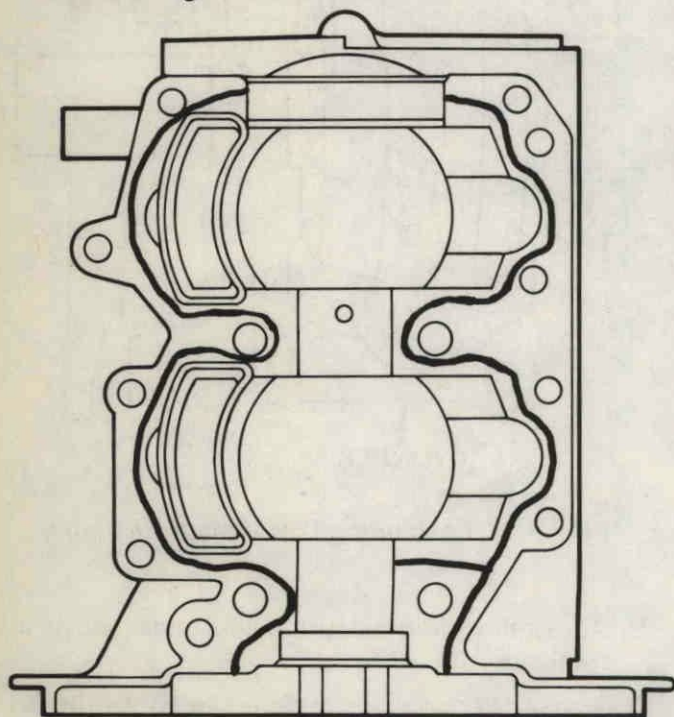

Figure 33. Applying Sealant to Parting Line.
- B. Apply a bead of fresh sealant, (Special Tool No. T 8983), to parting line surface of cylinder. Cover evenly and completely and make sure sealant reaches lower main seal case and upper main bearing race. Figure 33. Assemble crankcase cover to cylinder within 3 minutes after application to insure seal effectiveness.